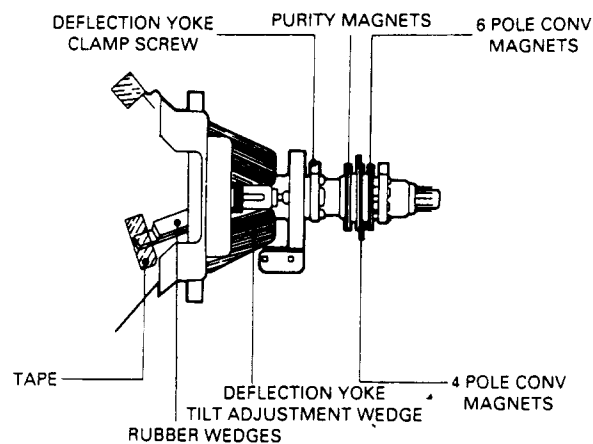

FIG. 5 PICTURE TUBE NECK COMPONENT
1. Check for correct location of all neck components. (See figure. 5)
5. Loosen the deflection yoke tilt adjustment wedges (3), loosen the deflection yoke clamp screw and push the deflection yoke as close as possible to the CRT screen.